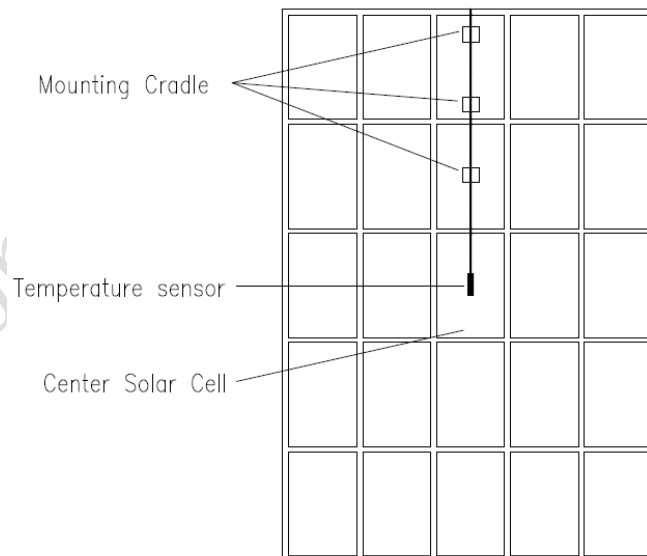

Fig 2.1 – Position of sensor installation
- i) The sensor is to be pasted to the back side of the PV Module in the center position of the panel. Remove the upper oily paper from the sensor. This will expose the sticky part which will stick to the solar panel. Care is to be taken so that the sensor does not fall in between two cells. It should be at the center of the centermost cell of the panel as shown in the fig 2.1.